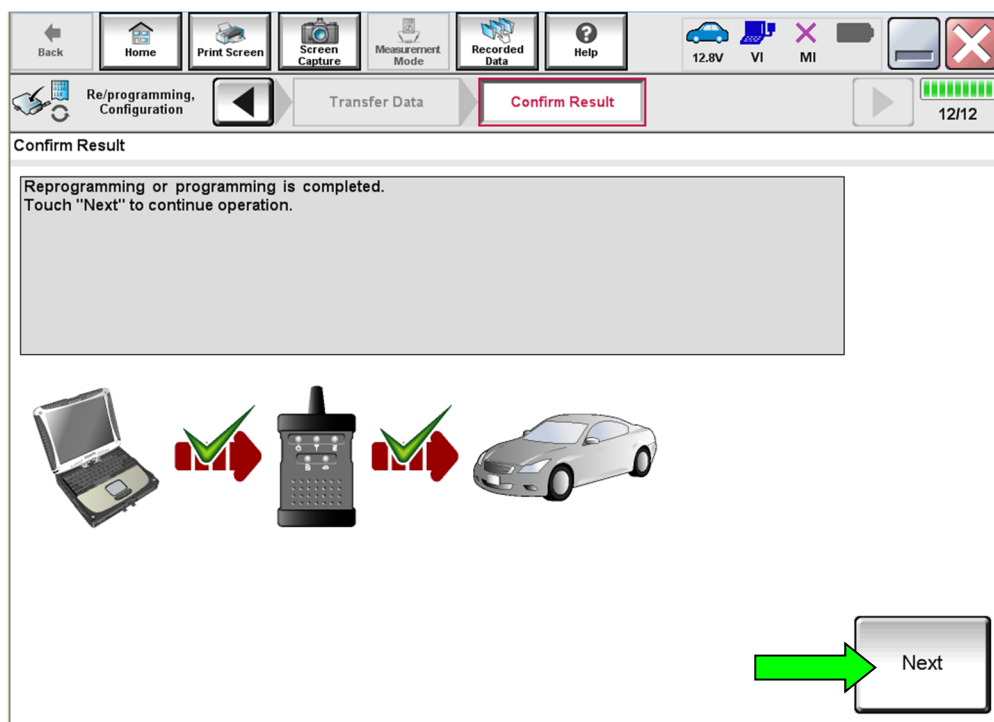

Figure 13
22. When the screen in Figure 13 displays, reprogramming is complete.
**NOTE:** If the screen in Figure 13 does not display (indicating that reprogramming did not complete), refer to ICC/ADAS 2 recovery on the next page.